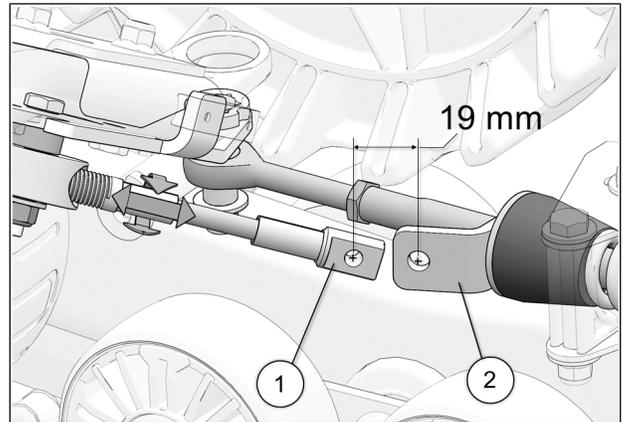

Fig. 31
18. Turn the vehicle's steering wheel to its maximum point of travel on the left. While maintaining pressure on the steering wheel, turn threaded rod to adjust length of cable. See Fig. 31
19. Position cable end hole (1), 19 mm [$\frac{3}{4}$ in.] short of support plate (2) mounting hole. See Fig. 31